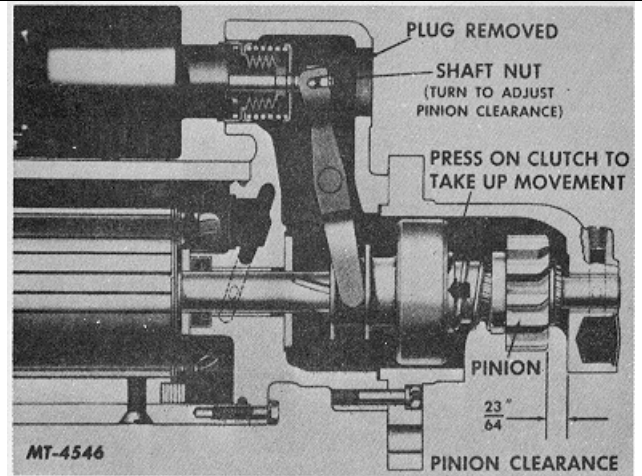

Fig. 17 Checking Pinion Clearance on Motors with the Heavy Duty Sprag Clutch
Heavy Duty Clutch $\frac{23}{64}$ inch, Fig. 17.
5. Clearance is adjusted by removing plug and gasket on rear housing and turning the adjustment nut, Fig. 17